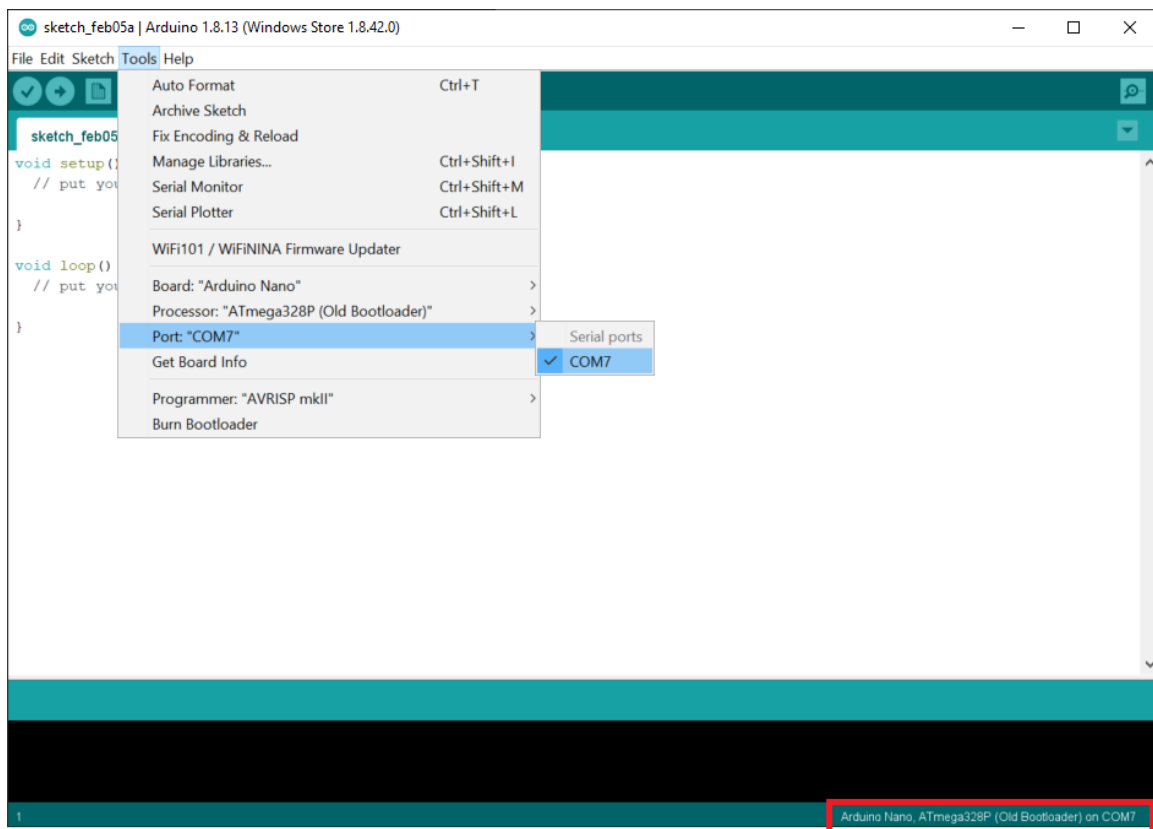

Figure 5. Arduino IDE with Arduino Nano connected.
- (c) Configure the correct serial port. The Arduino IDE is initially connected to an arbitrary COM port. Select **Tools->Port**: to view current COM ports. **Connect your Arduino Nano to the computer USB port. Select Tools->Port->COMx** where x is the COM port that your Arduino is connected to. I have selected COM7. (see Figure 5).